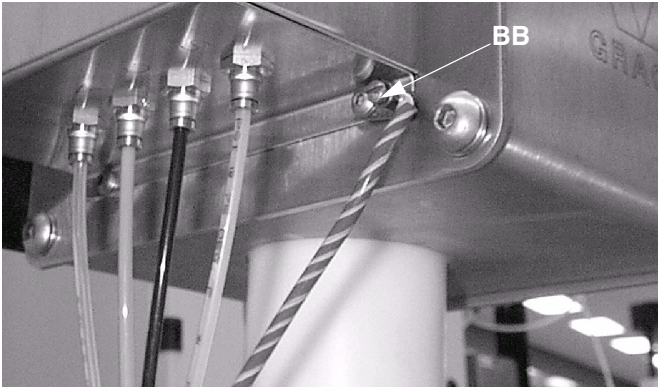

FIG. 25
Connect a ground wire from the Gun Flush Box ground lug (BB) to a true earth ground. FIG. 25.